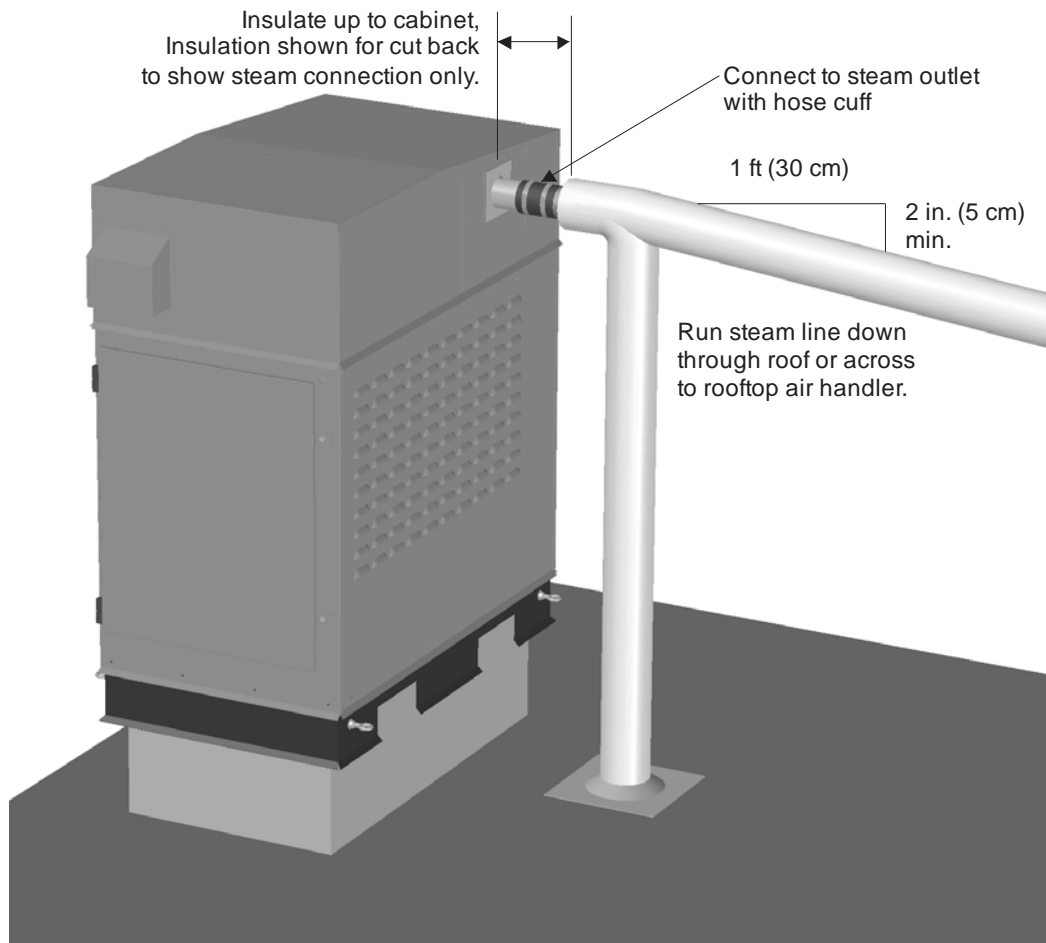

Figure 27: SETC Outdoor Steam Outlet
- The Steam outlet(s) of the SETC Outdoor is from the back of the humidifier and unlike the indoor model does not require 12 in. (30 cm) of vertical steam run immediately after the humidifier. The steam line may be routed directly down or horizontally from the outlet. See Figure 27: SETC Outdoor Steam Outlet.